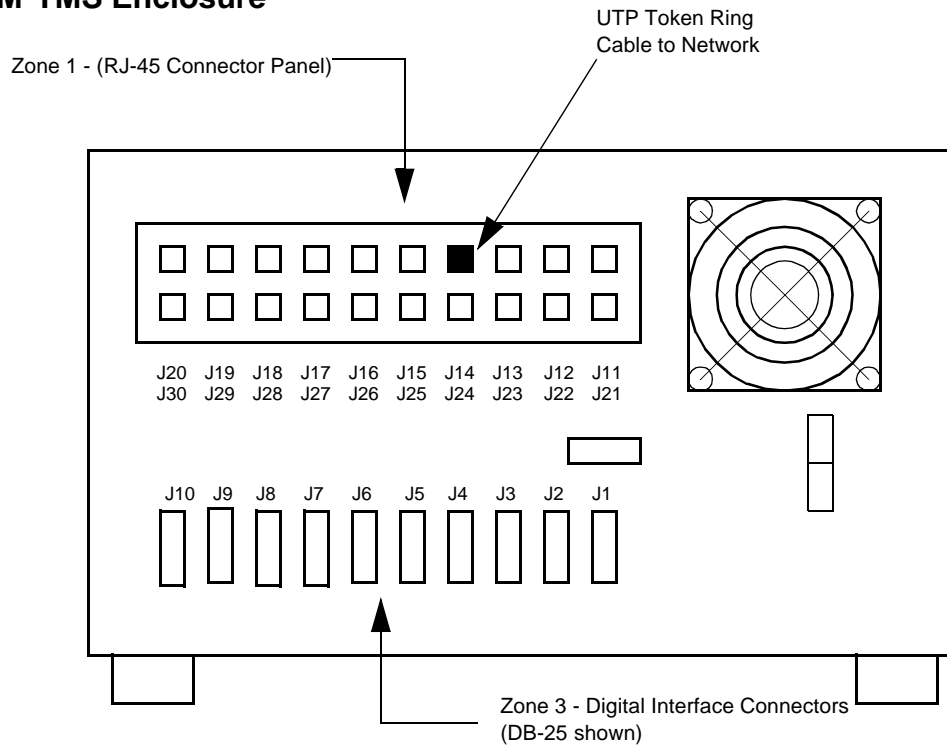

Figure 4-3 Connecting UTP Token Ring Cable to OPP Token Ring Module Installed in Slots 6 and 7
3. Using an 027H254-001 STP cable with a DB-9 connector, connect the RJ-45 end to the appropriate lower RJ-45 connector in Zone 1 on the rear of the OCM*TMS Shelf or Enclosure. *Figure 4-3* shows how to connect an STP (Type 1) cable.
1. Using a UTP cable, connect the cable to the appropriate upper RJ-45 jack in Zone 1 on the OCM*TMS Shelf or Enclosure. *Figure 4-3* shows where to connect a UTP cable to the module.